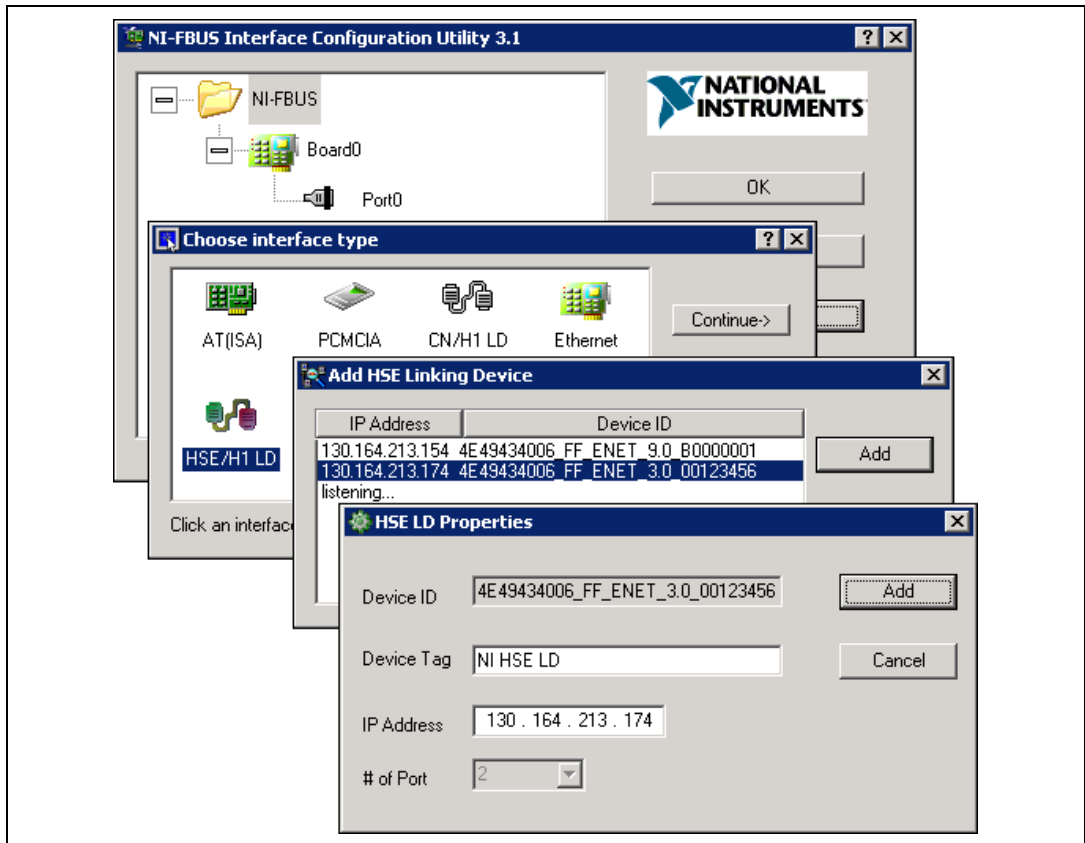

Figure 2-3. Add the HSE Linking Device
5. The NI-FBUS Interface Configuration Utility displays the device ID, device tag, IP address, and port number of the linking device as shown in Figure 2-3.